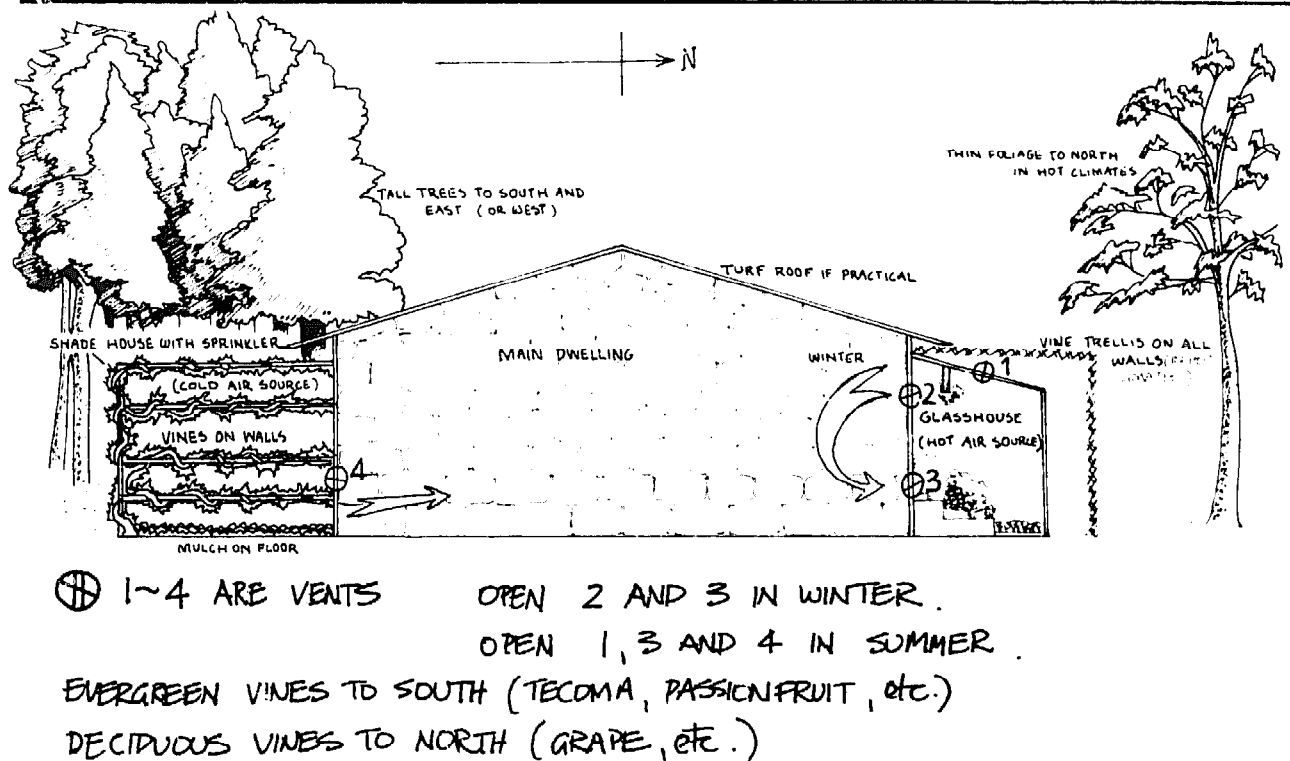

FIG. 6.2: HOUSE MODIFIED BY ATTACHED SHADE HOUSE AND GREENHOUSE, TRELLIS, VINES. SEE ALSO REFS. 8 AND 24.
- 2 SHADEHOUSE IN MOST OF TEMPERATE, SUB TROPICAL, & TROPICAL AUSTRALIA: COOLING SYSTEM - POND WITH DRIP, FERNS, SHADE PLANTS. VENT AS IN FIG. 6.2
Changes to existing structures follow the same set of criteria. An attached glasshouse to the north and a shadehouse to the south (Fig. 6.2) plus sun-trap planting, trellis, and insulation go a long way to reforming an existing house. The main problem areas lie in the often perverse arrangement of rooms in older houses, many of which face the road rather than the sun, and in the mania for glass windows in all outside walls. (At least the glass is available for more sensible use, or for double-glazing smaller window areas.) We can summarize ways to make older houses more energy-efficient, as below:
Fig. 6.2 diagrams how the system works. In *summer* when the house is too hot, open V.1 at the top of the glasshouse: air escapes, drawing in cool air from V.4, over the damp mulch and through the vine-covered and ferny shadehouse, where a fine spray or drip of water on the mulch keeps the air cool. In *winter* close V.4 and V.1, open V.2 and V.3, so that by day warm air from the glasshouse circulates in the insulated rooms. Close at evening, trapping warm air. Both shadehouse (for small fruit and brassicas) and glasshouses (for spices and tropicals) yield food for the family while cutting down on fuel costs. So, we eat more cheaply and better, and live more comfortably by installing these passive energy systems.